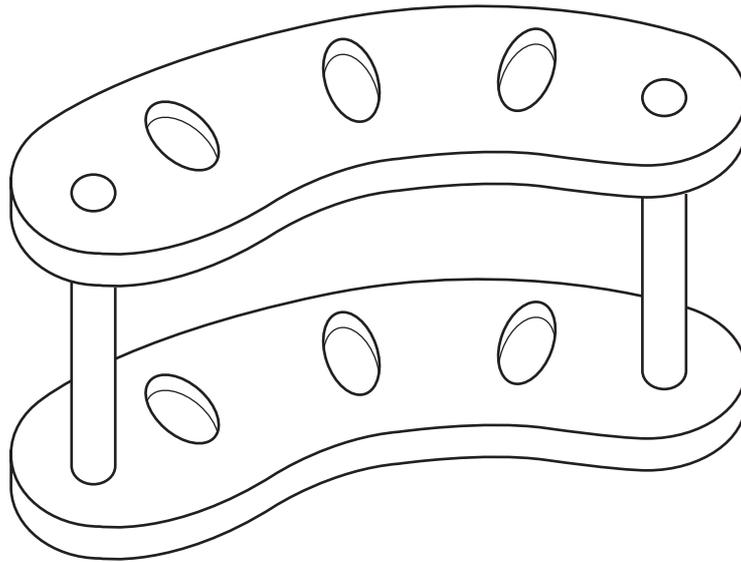

Fig. 2
- 2 Fig. 2 shows the design of a toothbrush holder.